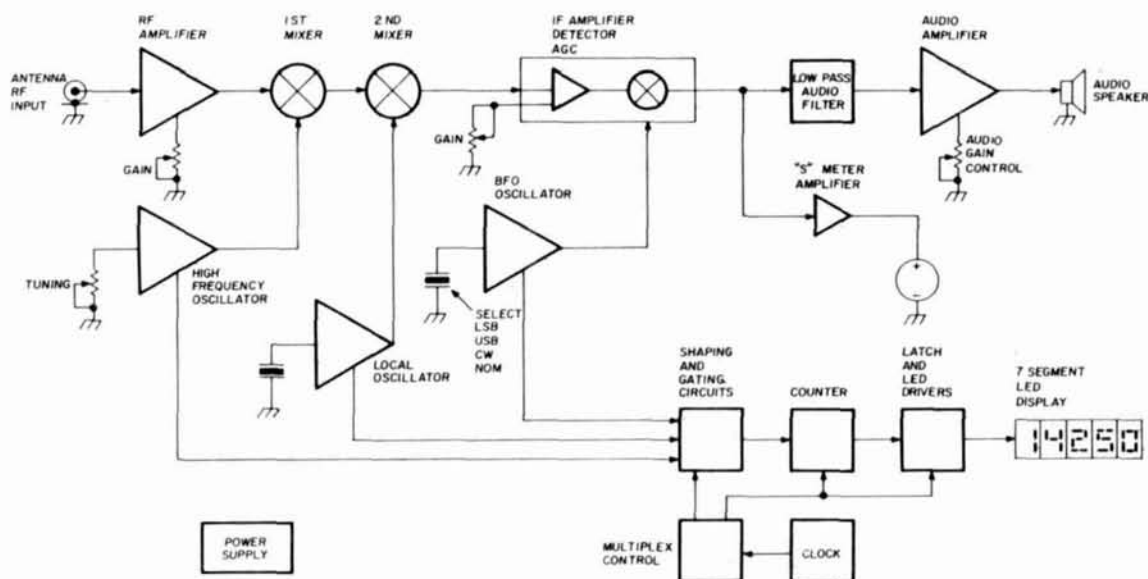

fig. 1. Block diagram of the 20-meter high-performance receiver.
**Fig. 1** is a block diagram of the receiver. It uses the straightforward dual-conversion design approach. Voltage-controlled varactor diodes are used for frequency selection in the HFO and tuning of the rf and mixer input stages. Local and BFO oscillator frequencies are established with crystal control for stability of the i-f. Intermediate frequency amplification and selectivity are obtained with a single integrated circuit in combination with a Collins narrow bandpass mechanical filter (2.1 kHz nominal).